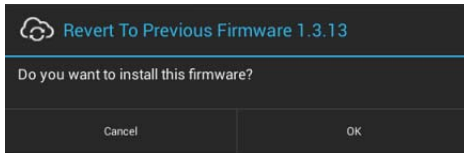

FIG. 93 System Prompt - Revert To Previous Firmware?
2. A System Message window is displayed that indicates the previous firmware version that will be installed, and prompting you to verify this action (FIG. 93):